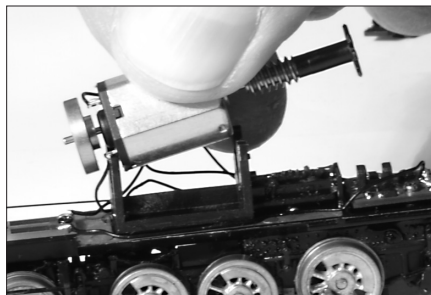

Figure 17 - Remove the motor from cradle.
2. Pry the motor away from the gearbox cradle. **Note:** *It may be necessary to use a small screwdriver and pry up between the motor and cradle to lift the motor out of the gearbox assembly.* (See Figure 17).